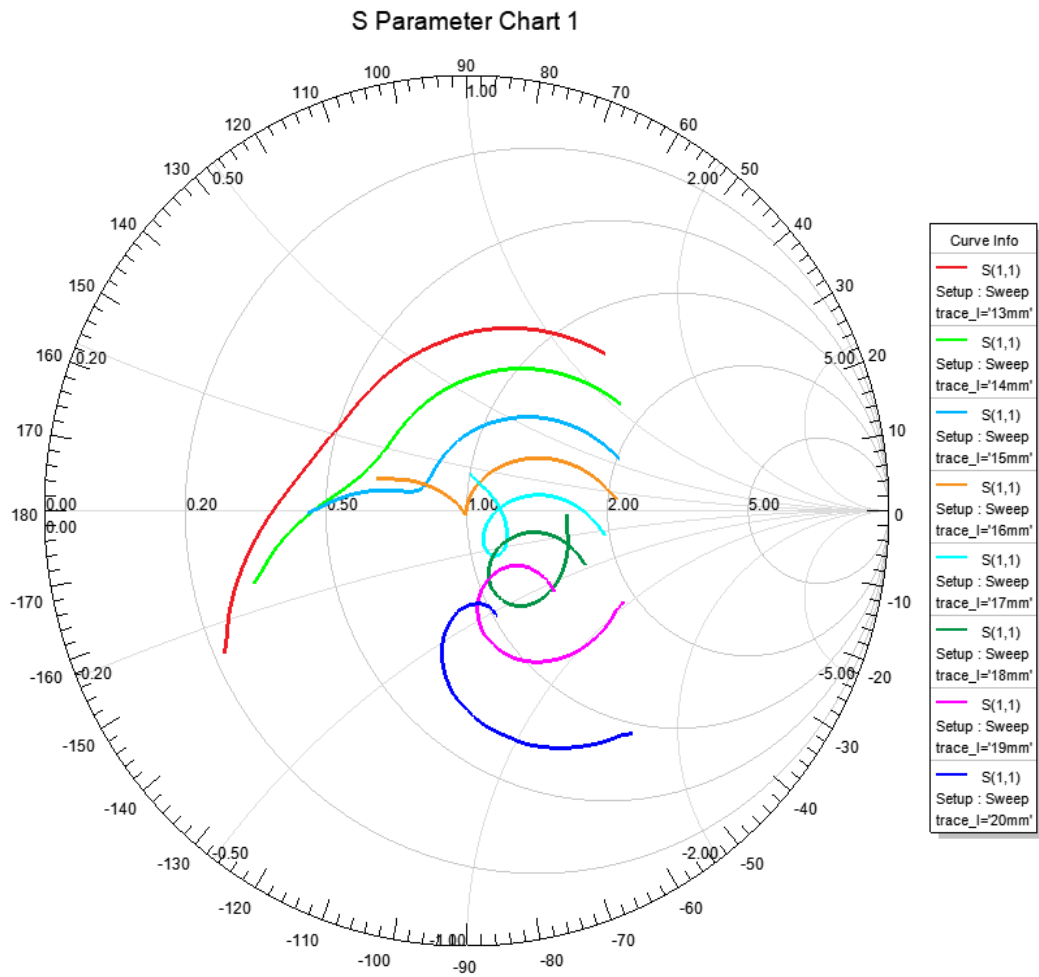

Figure 14. trace_l Parameter Chart
- trace_l Parameter Chart (Figure 14)